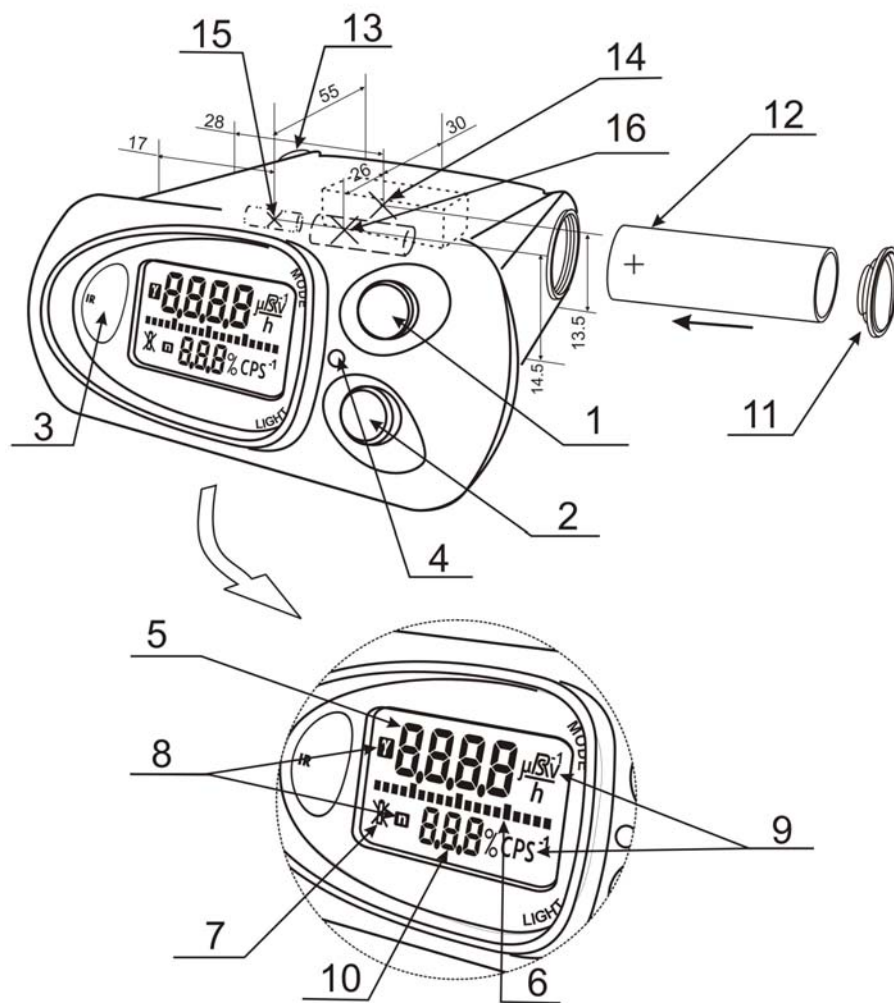

Figure 6.1
For installation of the supply cell a cover of the supply section is to be unscrewed (11) (figure 6.1) with the aid of a special spanner included to the supply set; to be installed to the supply cell by observing polarity (the cell electrode marked with "+", must be directed inside the indicator); the cover of the supply section is to be restored.
Two push buttons for the device control are located on the front panel of the indicator: (MODE) and (LIGHT) , a liquid crystal display (LCD), a window of the IR transmitter-receiver, a light diode (LED), figure 6.1.